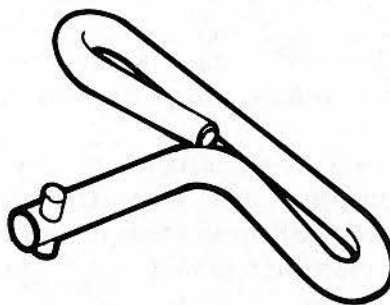

Fig. 6 — P0896911 Tool
Tool, P0896911	To unlock the door assembly. The tool is shown in Fig. 6.
5.15 The door is removed from the housing assembly as described in Chart 1. The P0896911 tool (Fig. 6) is used to unlock the door.
2	Insert P0896911 Tool (Fig. 6) in keyhole on right side. Rotate tool 1/8 turn clockwise to release right-hand bolt.